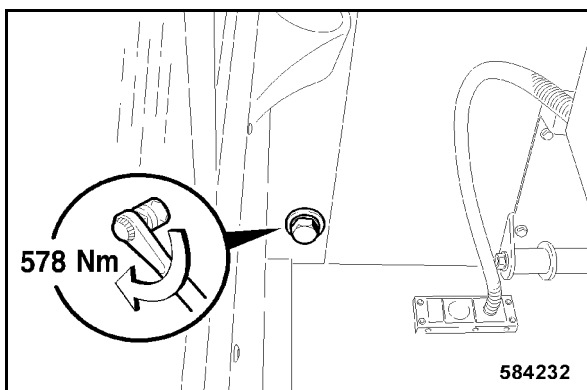

Fig. 217
- Tighten the rear inside fastening screw on the right hand side with 578 Nm (Fig. 217).